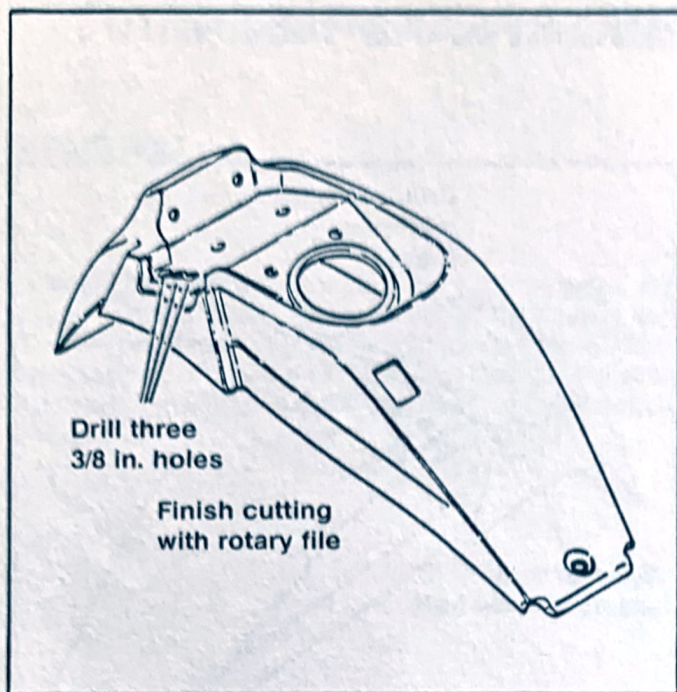

Figure 8-20. Cutting Slot in Console
## CONSOLE MODIFICATION (Figure 8-20)
6. See Figure 8-20. Cut slot on the left side of the console using a drill and a 3/8 in. drill bit. Drill three holes as shown. Finish cutting the slot using a small rotary file.